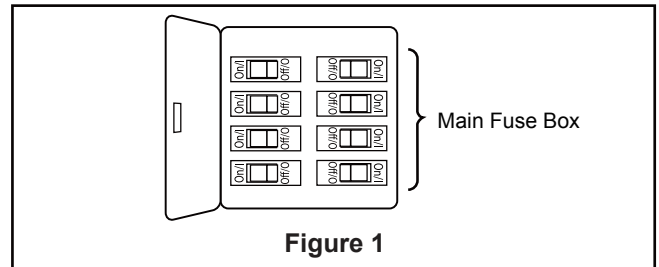
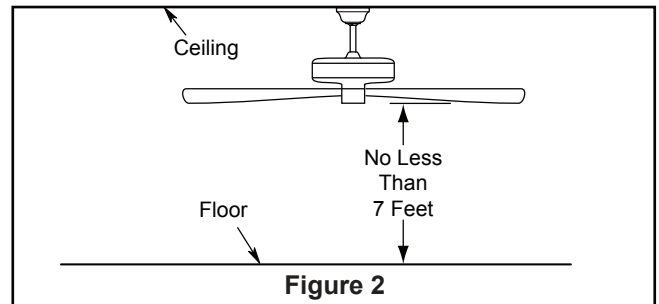

Figure 1
Figure 2
Your new ceiling fan will require a grounded electrical supply line of 120 volts AC, 60 HZ, 15 Amp Circuit. Electrical code requires use of a fan-rated outlet box to support the extra weight and motion associated with a ceiling fan. A fan-rated box will be labeled as such and typically supports up to a 70lb ceiling fan. Fan-Rated Outlet Boxes vary in ratings and design. Ensure the ratings of your ceiling fan outlet box meet the requirements for the ceiling fan being installed. Figure 1, Figure 2 and Figure 3 depicts different structural configurations that may be used for mounting the outlet box.
Low profile box (Figure 1)
Deep box (Figure 2)
- 1. Prior to assembly, set aside and save the hardware bags included in the packaging. Remove the hanger ball by loosening the set screw in the hanger ball until the ball falls freely down the downrod. Remove the pin from the downrod, then remove the hanger ball. Retain the pin and hanger ball for reinstallation in Step 6. (Figure 1)
- 2. Remove the hairpin clip and clevis pin from the bottom of downrod. Retain the pin and clip for reinstallation in Step 4. (Figure 2)
To avoid possible fire or shock, be sure electricity is turned off at the main fuse box before hanging. (Figure 1)
The fan must be hung with at least 7' of clearance from floor to blades. (Figure 2)
- 1. To set the code on receiver unit, slide dip switches to the same positions as set on the remote control. (Figure 1)
To avoid possible electrical shock, be sure electricity is turned off at the main fuse box before wiring. (Figure 2)
1. Assemble canopy by rotating key slot in canopy over shoulder screw in hanger bracket and care not to pinch the wires. Tilt the motor assembly to the side to have more space to tighten shoulder screws. Fully assemble and tighten second shoulder screw that was previously removed. (Figure 1)
2. Securely attach and tighten the canopy screw cover over the shoulder screws in the hanger bracket utilizing the keyslot twist-lock feature. (Figure 2)
1. Carefully slide the blade through the slot as shown. Make sure the notch of blade is fully seated into the hex socket screw. Securely fasten the eight blades to the motor housing using the blade plates and button head screws. (Figure 1)
1. Remove one of the three screws in the support bracket at the bottom of the motor assembly. Retain the screw for later and slightly loosen the remaining two screws. (Figure 1)
2. Assemble the light kit to the support bracket using the two key slots in the light kit. Replace the previously removed screw and securely tighten all three screws. (Figure 2)
- 1. **IMPORTANT:** Using a full range dimmer switch (not included) to control fan speed will damage the fan. To reduce the risk of fire or electrical shock, do not use a full range dimmer switch to control the fan speed. (Figure 1)
- 2. Restore electrical power to the outlet box by turning the electricity on at the main fuse box. (Figure 2)